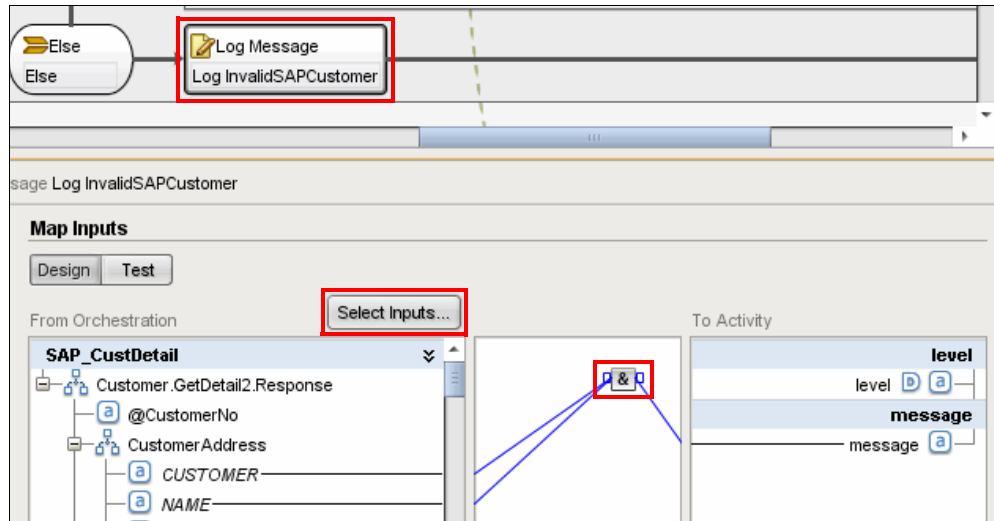

Figure 10-36 Create log message
- d. Link the fields CUSTOMER and NAME to the concatenate function, and the concatenate function to the field message, as shown in Figure 10-36 on page 380.